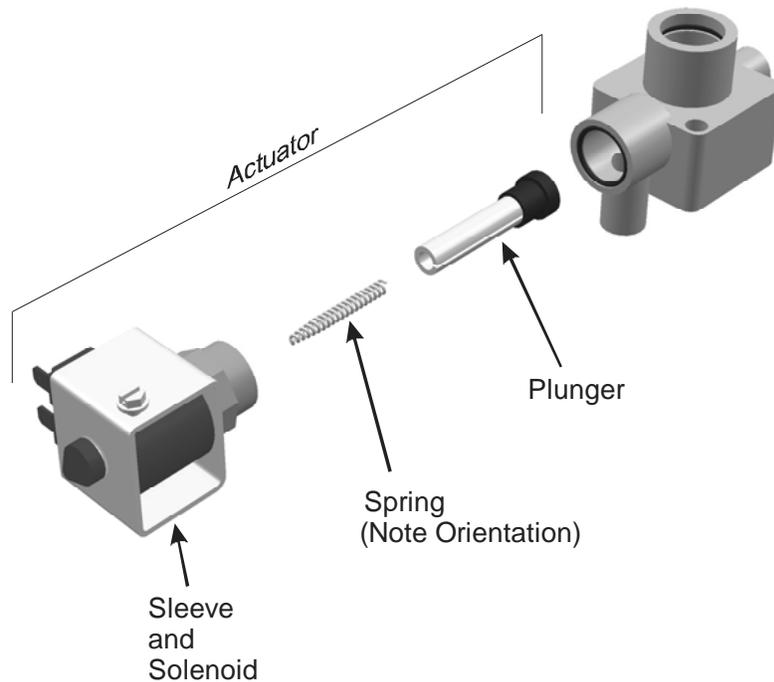

Figure 45: Drain Valve Actuator Assembly
- 7 Reassemble actuator making sure tapered end of spring is oriented as shown in Figure 45: Drain Valve Actuator Assembly. Tighten brass nut 1/4 turn past hand tight.